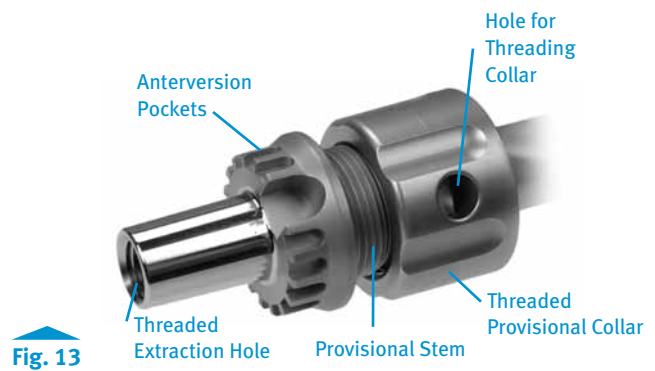

Fig. 13
- Thread the Segmental Collar Provisional onto the Segmental Stem Provisional (Fig. 13).